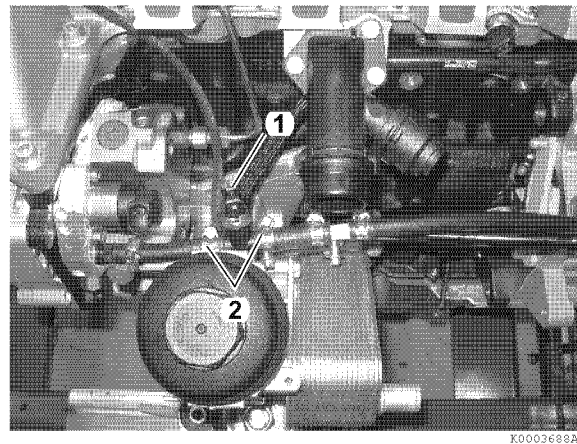

Figure 12-34
4. Disconnect electrical connector from sensor (1, **Figure 12-34**).
5. Loosen hose clamps (2, **Figure 12-34**) and remove hoses from sensor.